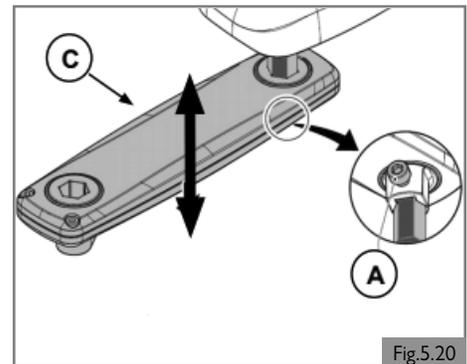
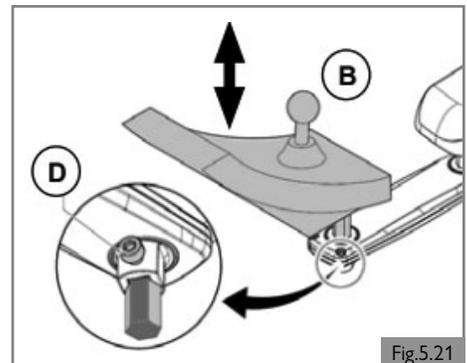

Fig.5.20
Fig.5.21
1. Loosen (A) by one turn.
2. Adjust (B) to the desired position.
3. Tighten (A). See section 8 for specified torque values.
#### Height of the controller (1) (Fig. 5.20)
2. Adjust (C) to the desired position.
#### Height of the controller (2) (Fig. 5.21)
1. Loosen (D) by one turn.
3. Tighten (D). See section 8 for specified torque values.